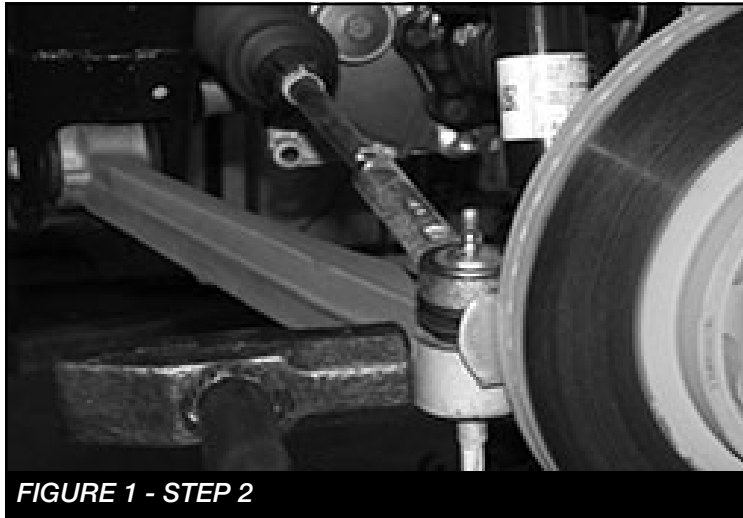

FIGURE 1 - STEP 2
2. Working from the front of the truck, remove factory skid plate. Disconnect the tie rod ends from the steering knuckle by striking the knuckle to dislodge the tie rod end. **SEE FIGURE 1**